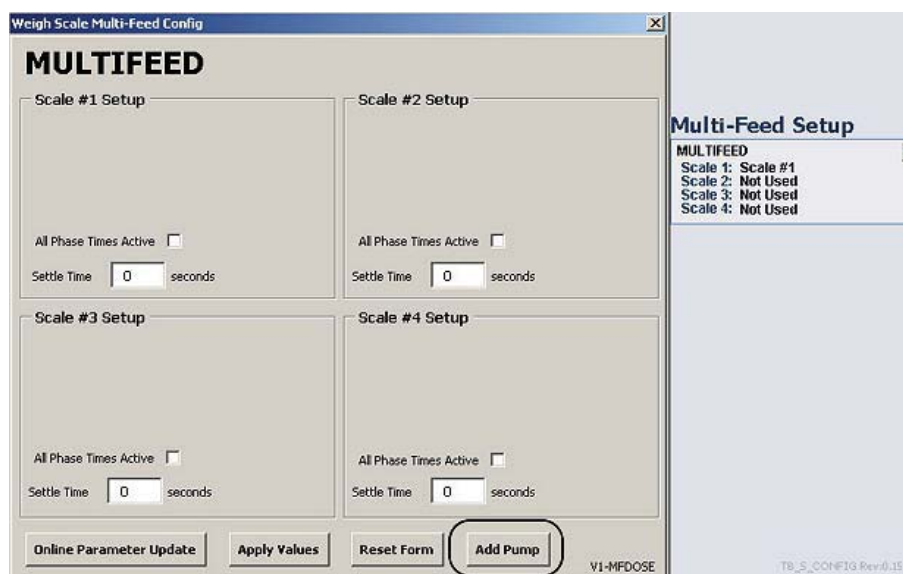

Figure 4.45. MultiFeed Config box.
7. To set up pumps on the scale, click the **MultiFeed** box on the Configuration page. This opens the “MultiFeed Config” box (Figure 4.45).